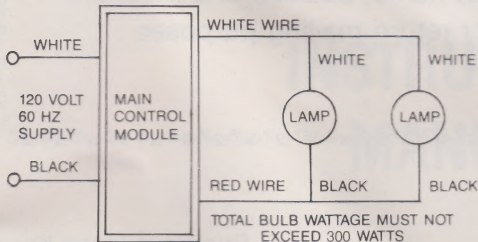
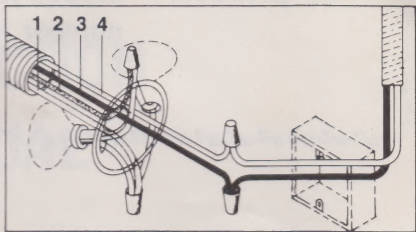

FIG. 2
FIG. 3
- 3. Refer to the diagram shown in Fig 2 and the wiring diagram shown in Fig 3 for electrical connections. Follow this step by step procedure for wiring the fixture. Wiring the unit incorrectly may damage the electronic components inside the control module and will void all warranty claims.